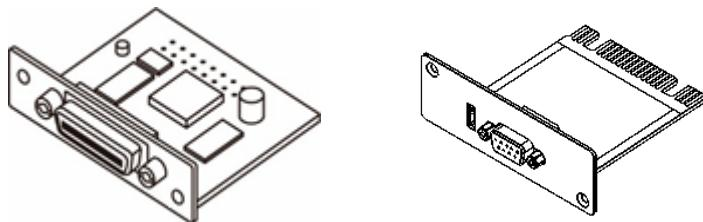

Figure 1-3 GPIB/CAN Interface
- Figure 1-3 shows the optional GPIB/CAN interface of model 618xx (item 9). A cover plate is provided if this option is not ordered.